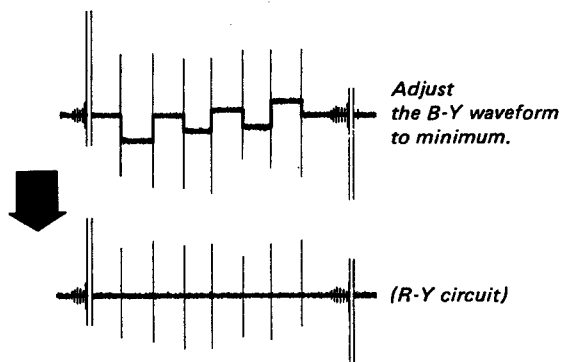

Fig. 5-93.
4. Set the oscilloscope sensitivity to 20mV/DIV, and adjust RV2 on the BA board so that the output waveform is flat. (See Fig. 5-93.)